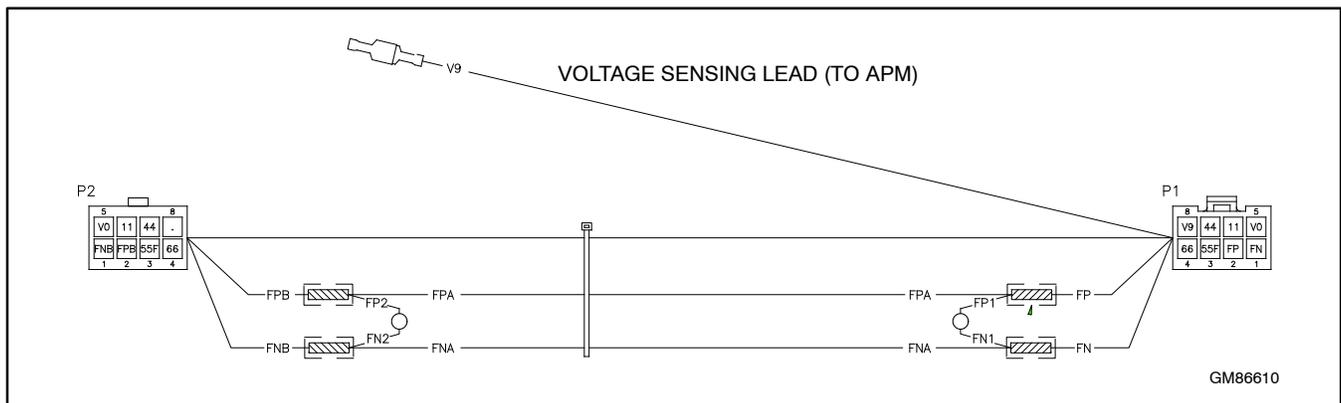

Figure 8 Adaptor/Protection Harness GM86610 (provided)
- b. Connect the adaptor harness to P2 on the RDC2 controller. See Figure 6 and Figure 8.